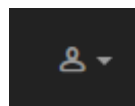

Figure 7. Partner Portal (Profile icon)
3. Hover the mouse cursor over the Profile icon in the upper right-hand corner of the web page (Figure 7 \(page 32\)). Click the **Account** option.